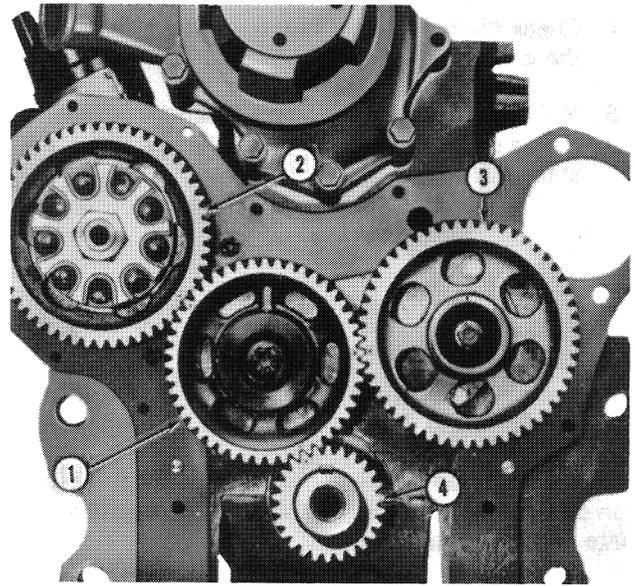

Figure 22
1. The timing gears are shown in Figure 22. The gears are correctly assembled when the timing marks on the gear teeth line up, as shown in the illustration, with the No. 1 piston on T.D.C.
1. Retime the engine before installing the injection pump. To do this remove the camshaft drive gear, place No. 1 piston at top dead center, and reinstall the camshaft drive gear in mesh and the timing marks aligned to the other gears as shown in Figures 22 and 24. Tighten the camshaft drive gear adapter bolt to the specified torque, page 81.